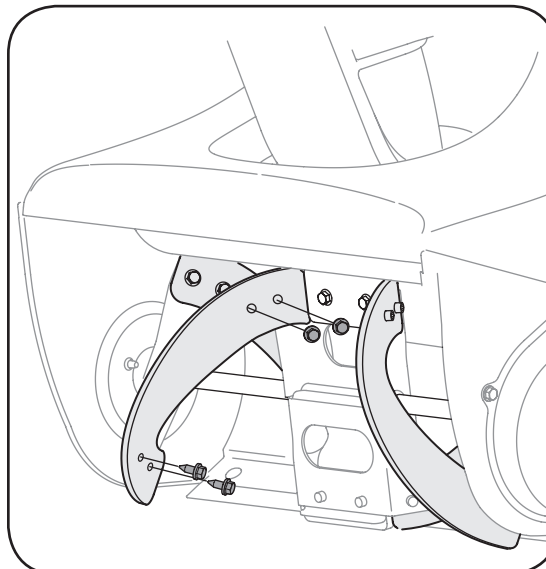

Figure 11
1. Remove the existing rubber paddles by unthreading the self-tapping screws which secure them to the auger. See Figure 11.